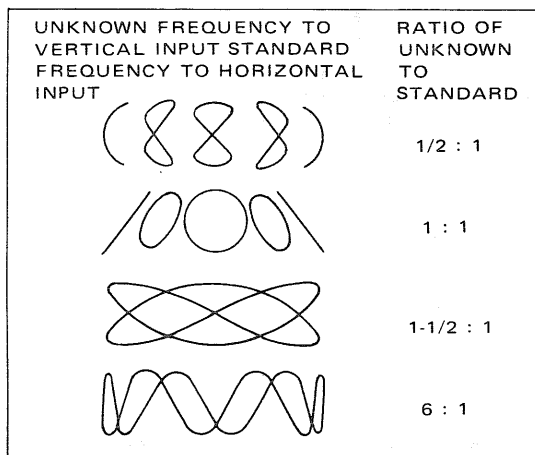

Fig. 27 Lissajous' waveforms used for frequency measurement
4. The resulting pattern called a Lissajous pattern, shows the ratio between the two frequencies (see Fig. 27).